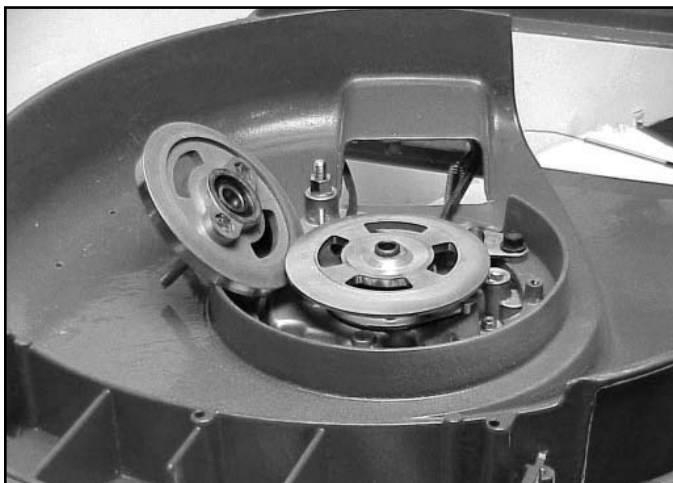

Fig 215
12. Rock the pulley half slightly and lift it off. The blade bolts will now drop out of their pockets (Fig. 215).